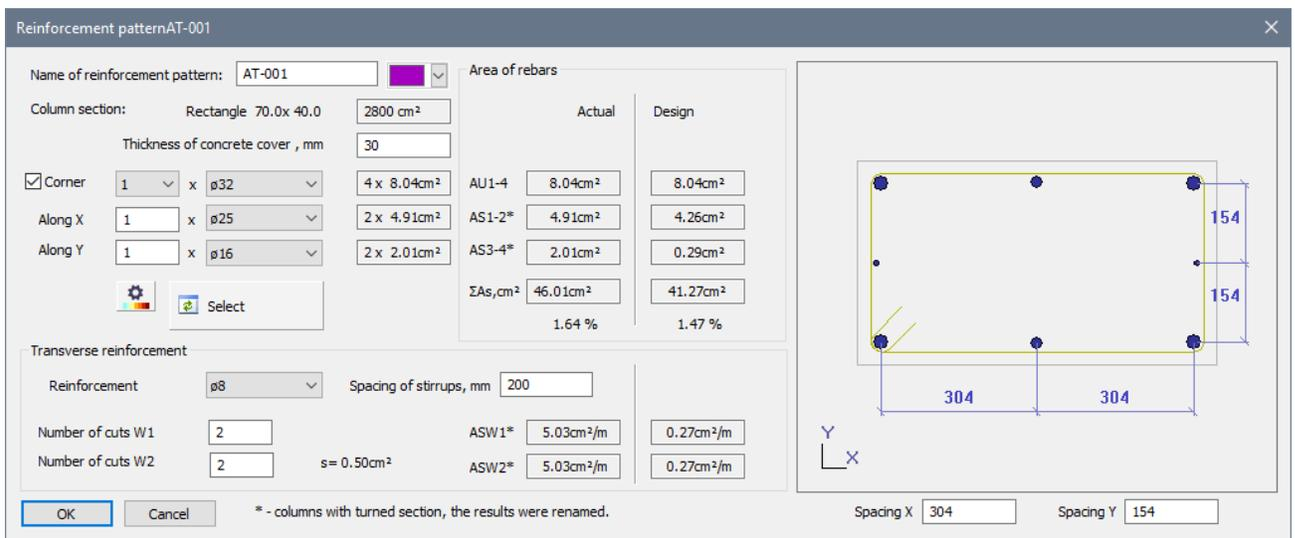

Figure 27.4. Reinforcement pattern dialog box
- In the **Reinforcement pattern AT-001** dialog box (see Fig. 27.4), in the drop-down list **Along Y**, select Ø16.